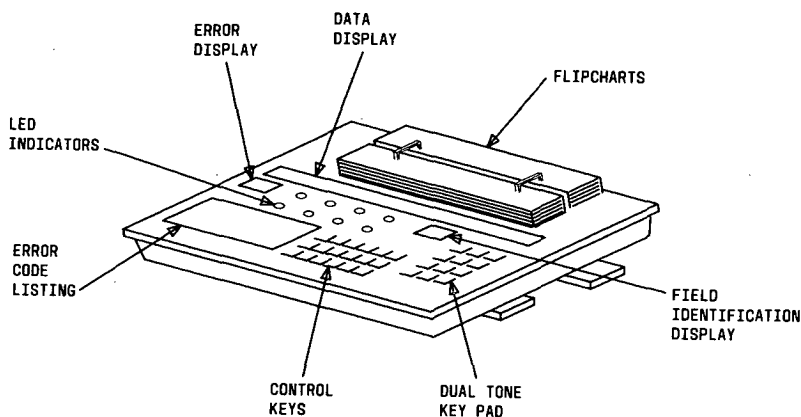
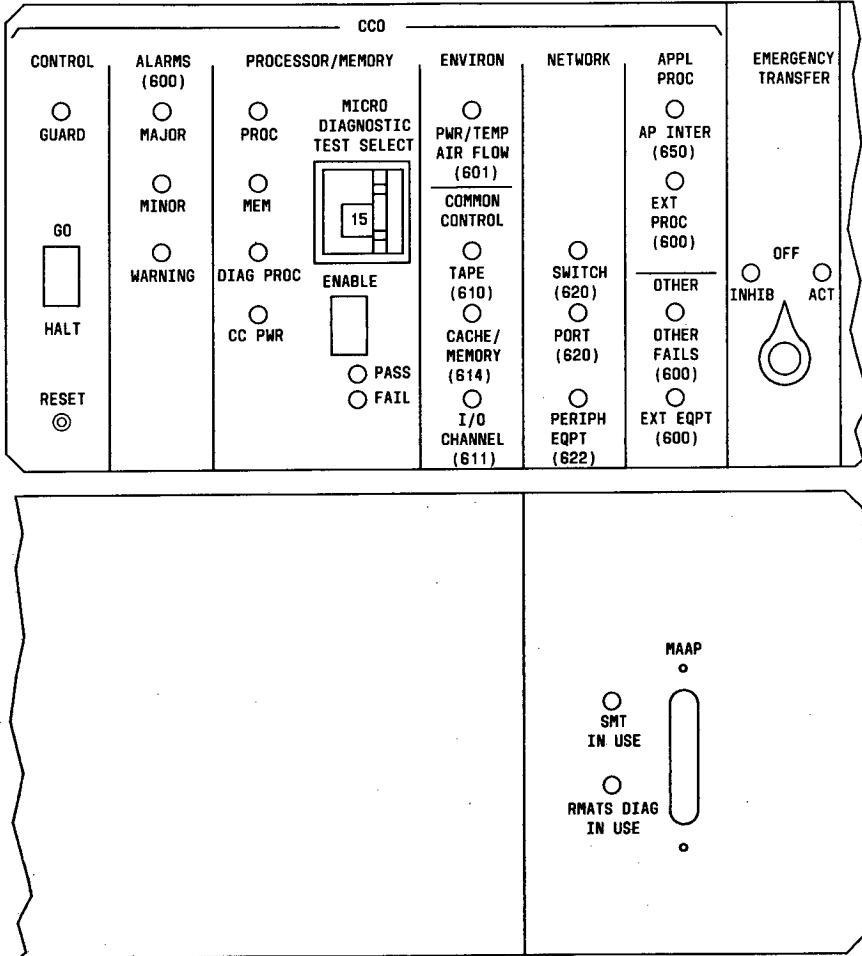
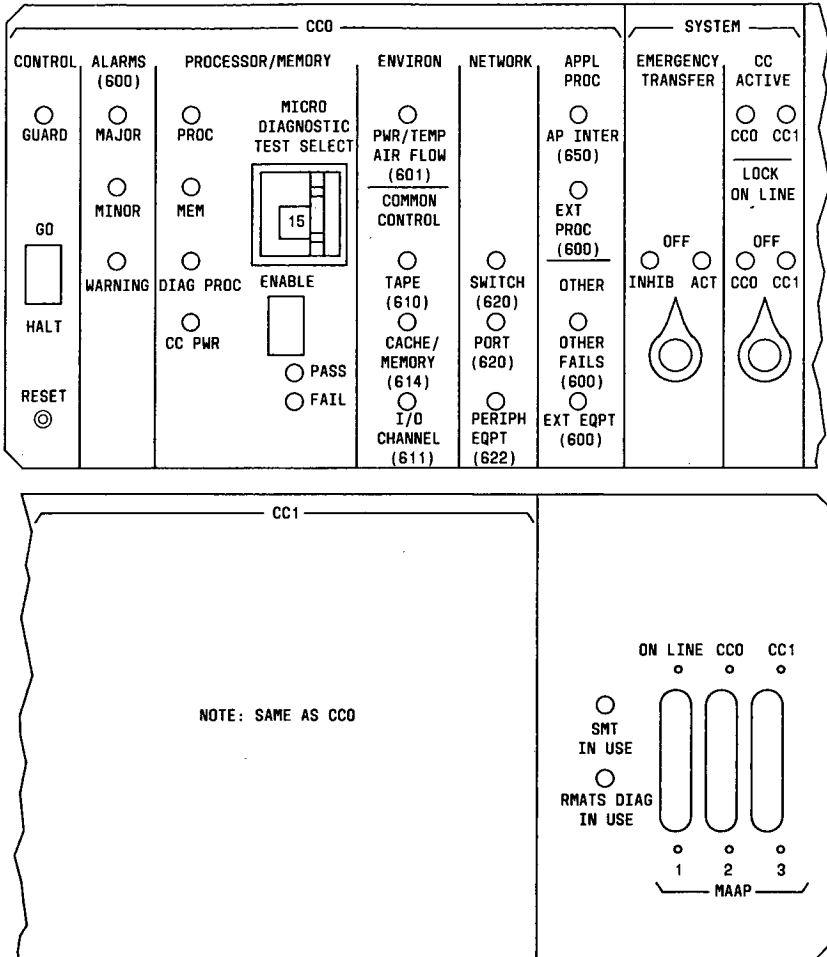

Figure 1. MAAP
Figure 2. UNDUPLICATED ALARM PANEL
Figure 3. DUPLICATED ALARM PANEL
X-RAY consists of individual tests loaded into memory via the X-RAY tape. Each test instructs the equipment to do a specific operation. The results are then compared to expected results. If the results do not match, a fault indication is displayed on the Maintenance and Administration Panel (MAAP) (Figure 1).
X-RAY is run by inserting the X-RAY tape into the minirecorder. If the switch is equipped with duplicate common controls, an X-RAY tape must be inserted in each minirecorder and loaded into each common control. At the alarm panel (Figures 2 or 3), set **MICRO DIAGNOSTIC TEST SELECT** switch to **15**, and depress **ENABLE**. Wait for the tape to load. This takes 2 to 8 minutes. The **PASS LED** on the alarm panel begins to blink when the tape is loaded. If the switch is equipped with duplicate common controls, repeat procedure to load the second X-RAY tape. The desired PROC is then selected and entered at the MAAP. The PROC may also be entered remotely from INADS/RMATS II (Initialization and Administration System/Remote Maintenance and Traffic System II) by the remote access port.
The MAAP (Figure 1) is the primary on-site interface between you and the switch. In the following sequence of PROCs, all commands are entered from the MAAP. Ensure the MAAP is connected to the MAAP connector on the unduplicated alarm panel (Figure 2) and the ON LINE connector on the duplicated alarm panel (Figure 3).
1. At the alarm panel (Figure 2), set **MICRODIAGNOSTIC TEST SELECT** switch to **15**.
1. At **CC0**, set **MICRODIAGNOSTIC TEST SELECT** switch to **15** (Figure 3).
2. Set **LOCK ON LINE** switch to **CC0** (Figure 3).
5. At **CC1**, set **MICRODIAGNOSTIC TEST SELECT** to **15** (Figure 3).